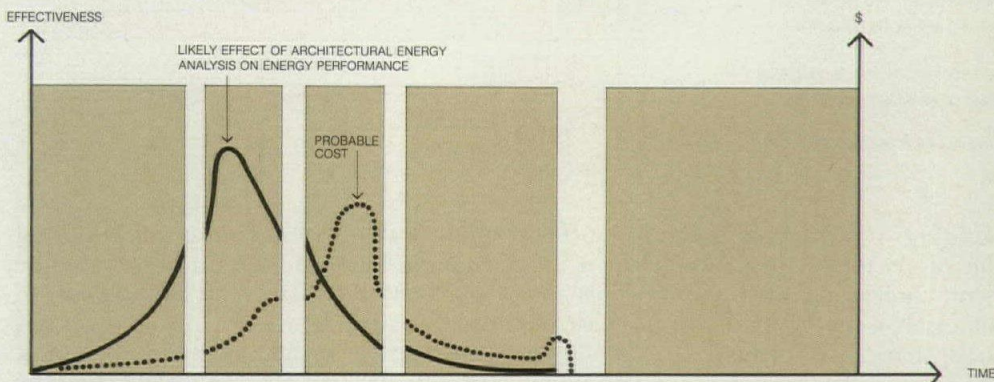

FIGURE 3: EFFECTIVENESS AND COST OF ARCHITECTURAL ENERGY ANALYSIS IN THE DESIGN PROCESS
Architectural energy analysis is thus most effective at the beginning of design. All too often, unfortunately, it does not start until much later and after severe limitations to the building's energy performance have already been set by uninformed designers. The actual tools employed in energy analysis during the design process vary according to the stage in development of the process (Fig. 3).
**Costs:** There is a discrepancy between the effectiveness of architectural energy analysis and its cost (Fig. 3). Energy analysis is clearly most effective early in the design process. At that time it is relatively inexpensive, mostly because "brainstorming" is neither labor nor equipment intensive. While the effectiveness of energy analysis inevitably drops during design development, its cost rises very significantly. This is because detailed quantitative analysis with sophisticated simulation models requires a lot of work and the use of expensive equipment in the modeling of the building. The cost of "parametric analysis" drops significantly because the detailed modeling of the building has been finished by then. Attempts to "save" money by delaying architectural energy analysis are obviously counterproductive. Designers who think that "right" design decisions early in the design process can be made entirely without the benefits of energy analysis (i.e., "brainstorming analysis") later often